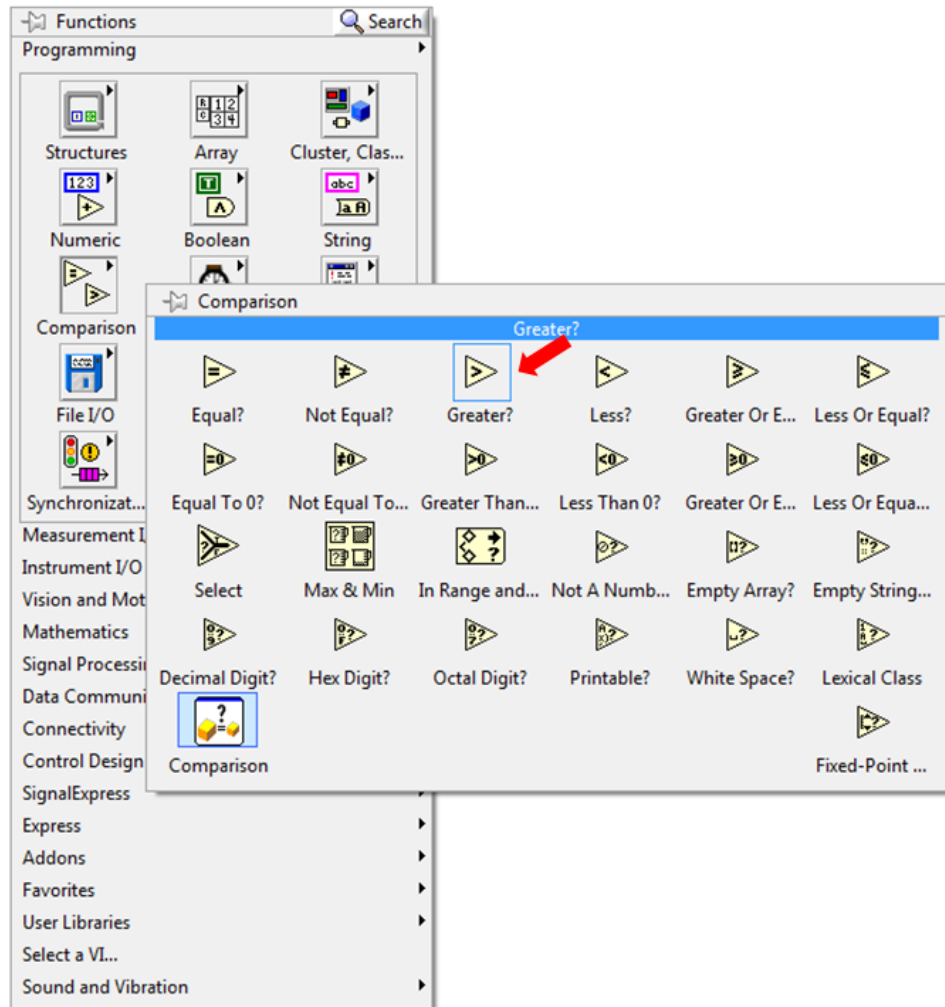

Figure 50. The **Greater?** function will compare two numbers and output a Boolean True if the top number is greater than the
7. Place a **Greater?** function from the Comparison Palette (Figure 50) in the location show in Figure 51.